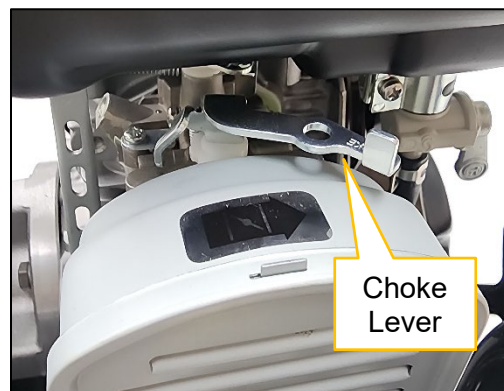

Figure 3. Choke lever.
- For a cold engine start, slide motor choke lever to the right (Figure 3).
- Slide the motor choke lever to the left (Figure 3).